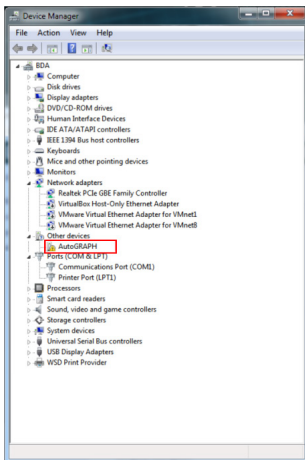

Fig.2. New equipment.
- when connecting the converter to a PC, the system will automatically found new equipment (Fig.2);